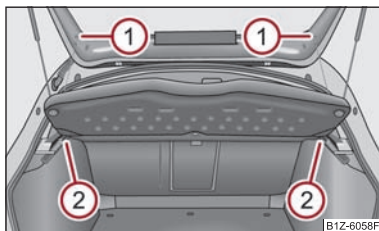

Fig. 60 Removing the luggage compartment cover
- Unhook the support straps on the boot lid ① ⇒ fig. 60.
- Pull the cover out of the holder ② horizontally to the rear.
- Install again by pushing the luggage compartment cover forwards into the holder ② and hanging the support straps ① on the boot lid.